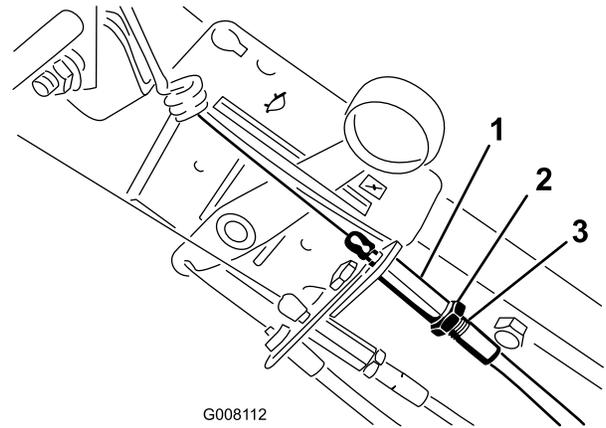

Figure 32
4. Reset the cable adjuster on the handle so that 1/4 inch (6 mm) of the threads show, then tighten the nut (Figure 32).